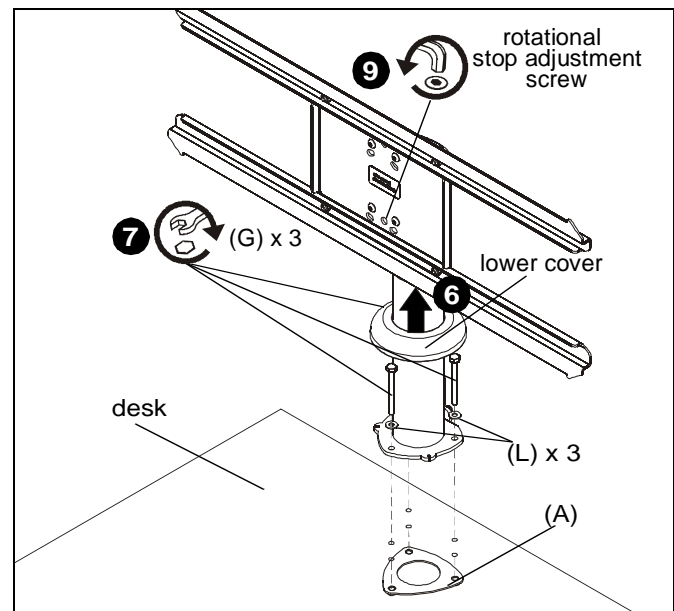
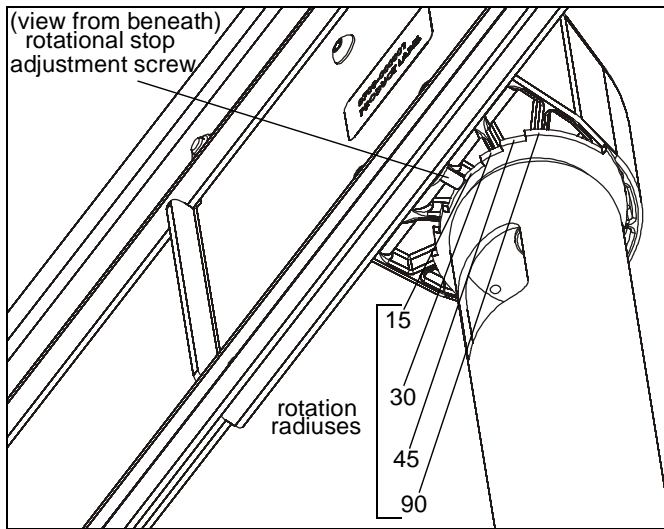

Figure 3
Figure 5
6. Lift lower cover on table stand to expose holes on lower plate. (See Figure 3)
7. Use three 1/4-20 x 2 1/2" hex head cap screws (G) and three 3/16" washers (L) to secure table stand (B) to desk and clamping plate (A). (See Figure 3)
- Use the 5/32" security hex key (W) to loosen rotational stop adjustment screw until desired radius is achieved. (See Figure 3) and (See Figure 5)